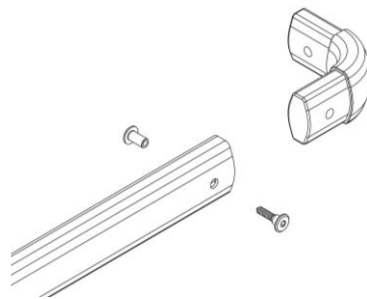

Fig 16
4. Bolt a 90° corner into one end of 2 of the arms (see Fig. 16.)